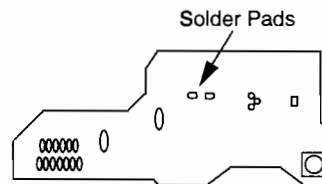

Figure 1. APC PCB, ESD Solder Points
5.1 Lift the CD mechanism (2) up and solder the two points located on the CD mechanism's APC PCB. See Figure 1. This will prevent static electricity damage to the CD mechanism.
6.1 Attach the cables to the CD mechanism (2) and remove the solder from the two points indicated in Figure 1.